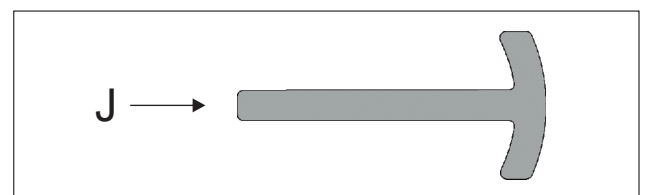

Figure 7
7 - Take the assembly tool (J). Figure 7.